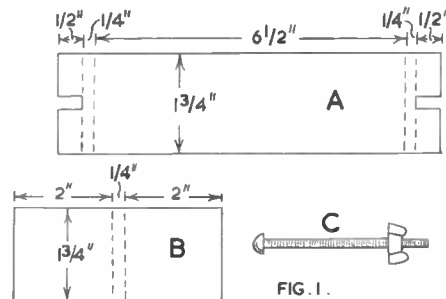

FIG. 1.
The sides of the mould (A) in Fig. 1, are grooved across where indicated by dotted lines, the grooves being $\frac{1}{4}$ in. wide and $\frac{1}{2}$ in. deep for the ends of the mould (B) to fit in. The slots at the ends of (A) are cut midway to suit the screw bolts (C) which hold all parts firmly together. The ends are grooved across at the dotted lines, as for parts (A) and hold in place a central division (not included in Fig. 1). The nominal length, however, is $6\frac{1}{2}$ ins. The screw bolts should be $5\frac{1}{2}$ ins. long and provided with wing nuts for rapid adjustment.